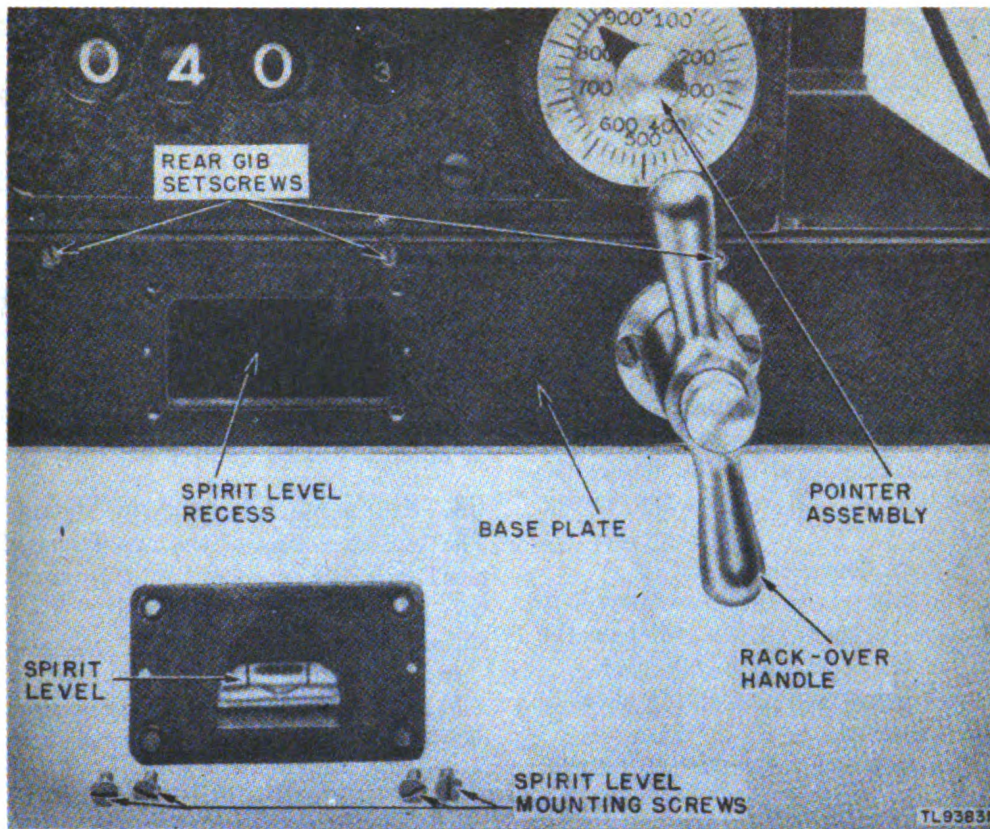

Figure 124. Spirit level removed from base plate.
60. Replacing Spirit Level (fig. 124)
61. Replacing Pointer Assembly in Dial Counter (fig. 124)